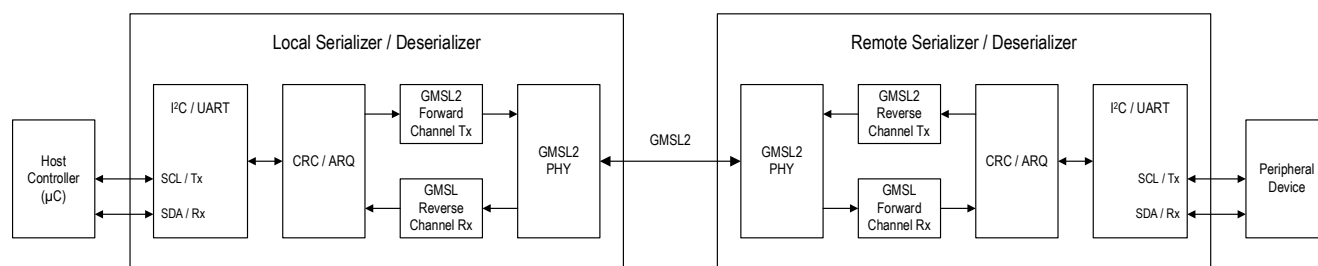
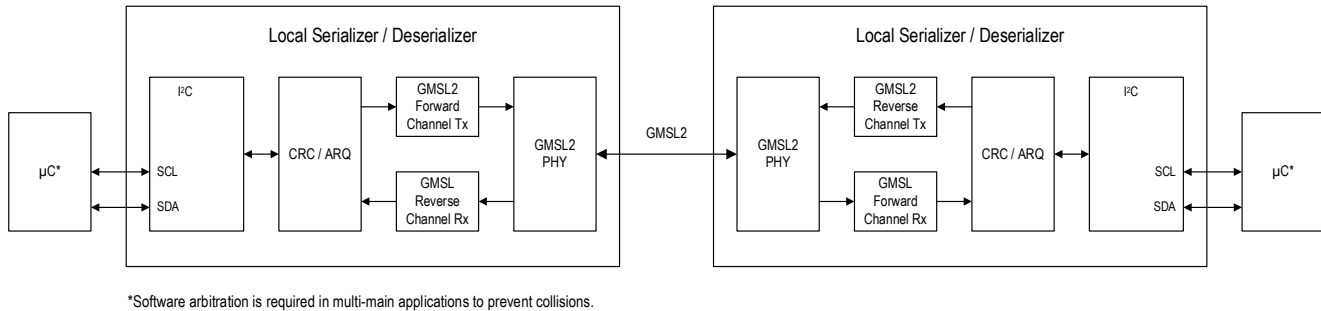

Figure 52. Typical GMSL2 Serial Link System with the Control Channel
Figure 53. GMSL2 System with Multi-Main Control Channel (I²C)
The I²C/UART control channel (CC) provides a main microcontroller (μC) with access to GMSL2 device registers and connected peripheral devices from either end of the serial link. Typical applications use one main μC (Figure 52). I²C multi-main applications are also supported, provided that a software arbitration method is used to prevent collisions (Figure 53). Note that the serial link allows only one main μC to communicate at any given time. The CC also enables the main μC to configure peripherals connected at the other end of the serial link (that is, remote side). This application requires that both GMSL2 devices are configured for the same CC protocol (that is, both I²C or both UART); GMSL2 devices do not support I²C-to-UART or UART-to-I²C conversion.
Note: In CC applications, the local GMSL2 device is connected to the μC; the remote GMSL2 device is connected to the remote peripheral I²C/UART device (see Figure 52).
The GMSL2 device directly connected to the µC that programs the serial link system and accesses remote peripherals through the CC is called the local device. The GMSL2 device on the opposite side of the serial link of the local device is called the remote device. See Figure 52.